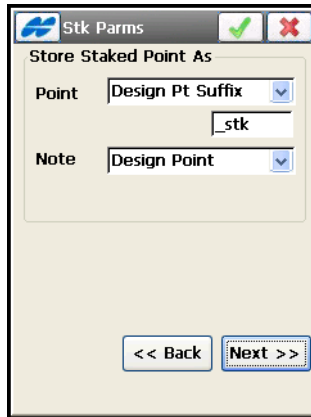

Figure 4-25. Storing Staked Points
14. In the next *Stk Parm*s screen, if necessary, set the rule for generating the point name and Note of the staked point (Figure 4-25 on page 4-21).
- Set the rule for setting Notes for staked points. If the Station & Offset option is selected, an edit box for entering an alphanumeric prefix appears (Figure 4-25 on page 4-21). For the United States, this prefix is “*Sta*”, for the international markets the prefix is “*Cha*”, and for the Korean/Japanese markets the prefix is “*No*”. With this option activated, depending on the choice for the prefix, TopSURV automatically generates one note for each stakeout point: either *Sta*5+5.5R5.0, *Cha*505.5R5.0, or *No*.5+5.5R5.0 respectively.